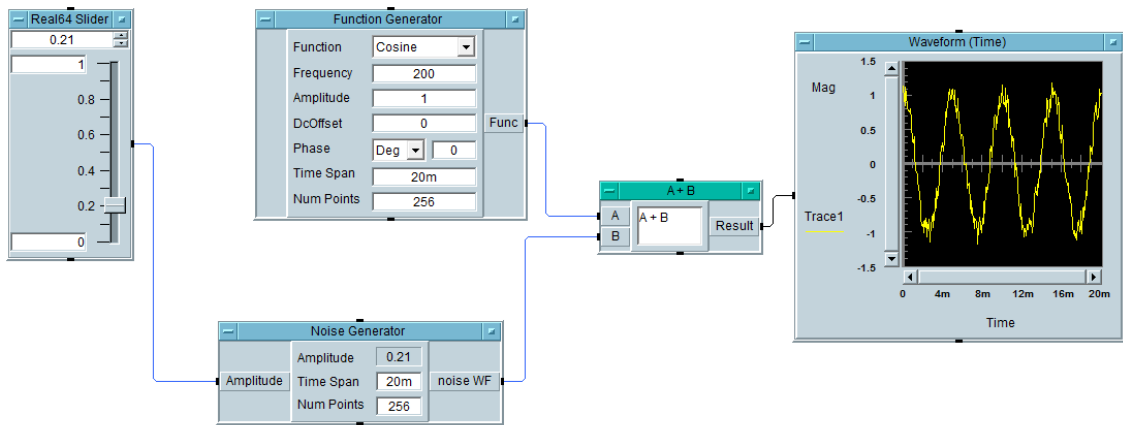

Fig. 11. Adjusting the noise amplitude with Real64 Slider
- Connect the data output pin of Real64 Slider to the data input pin of Noise Generator (**Amplitude**) as in Fig. 11.